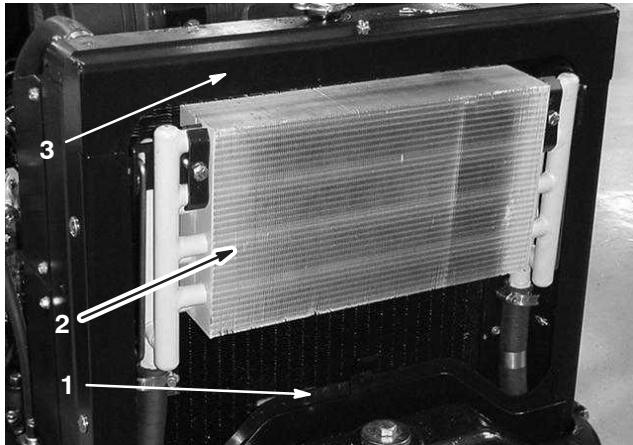

Figure 43
2. Remove the access panel (Fig. 43).